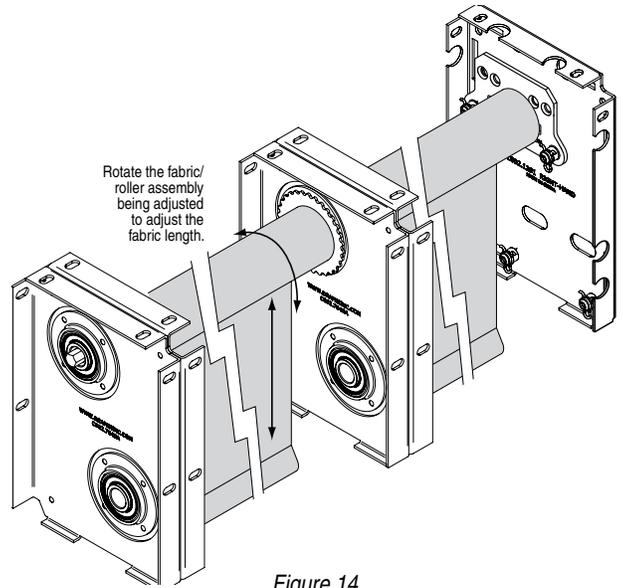

Figure 14
- 3 Rotate the fabric/roller assembly being adjusted in either direction to raise or lower the fabric panel (see Figs. 14 and 16).